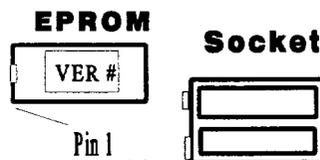

Figure 1
3. Remove the EPROM ver. 6.0 upgrade device from the ESD conductive box it was shipped in. Using insertion tool (ASN: 041-T-13) carefully insert the EPROM into the EPROM socket maintaining the correct pin 1 orientation with the notch in the socket. (Please refer to figure 1)